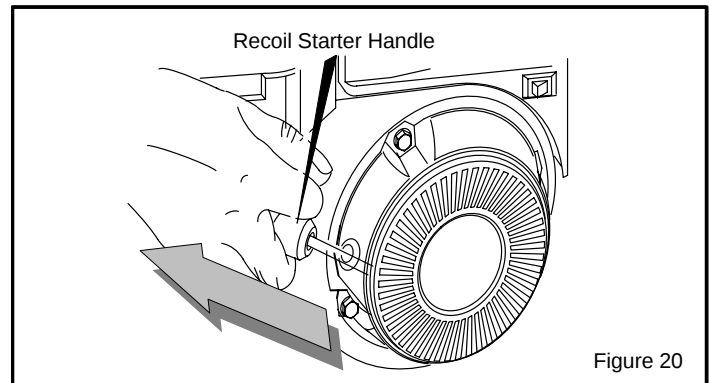

Figure 20
6. **(RECOIL START)** Pull starter handle (Figure 20) rapidly, and allow to rewind slowly while maintaining firm grip on handle.